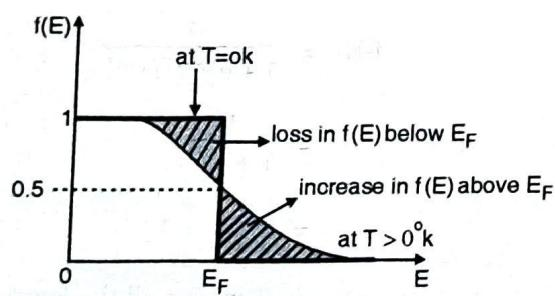

Fig. 3.5.3 : Electron occupancy at $T > 0^\circ K$
- In a simple way one can understand that, what increase in $f(E)$ at $T > 0^\circ K$ above $E = E_F$ we get is equal to reduction in $f(E)$ below $E = E_F$. This is shown as below in Fig. 3.5.3.